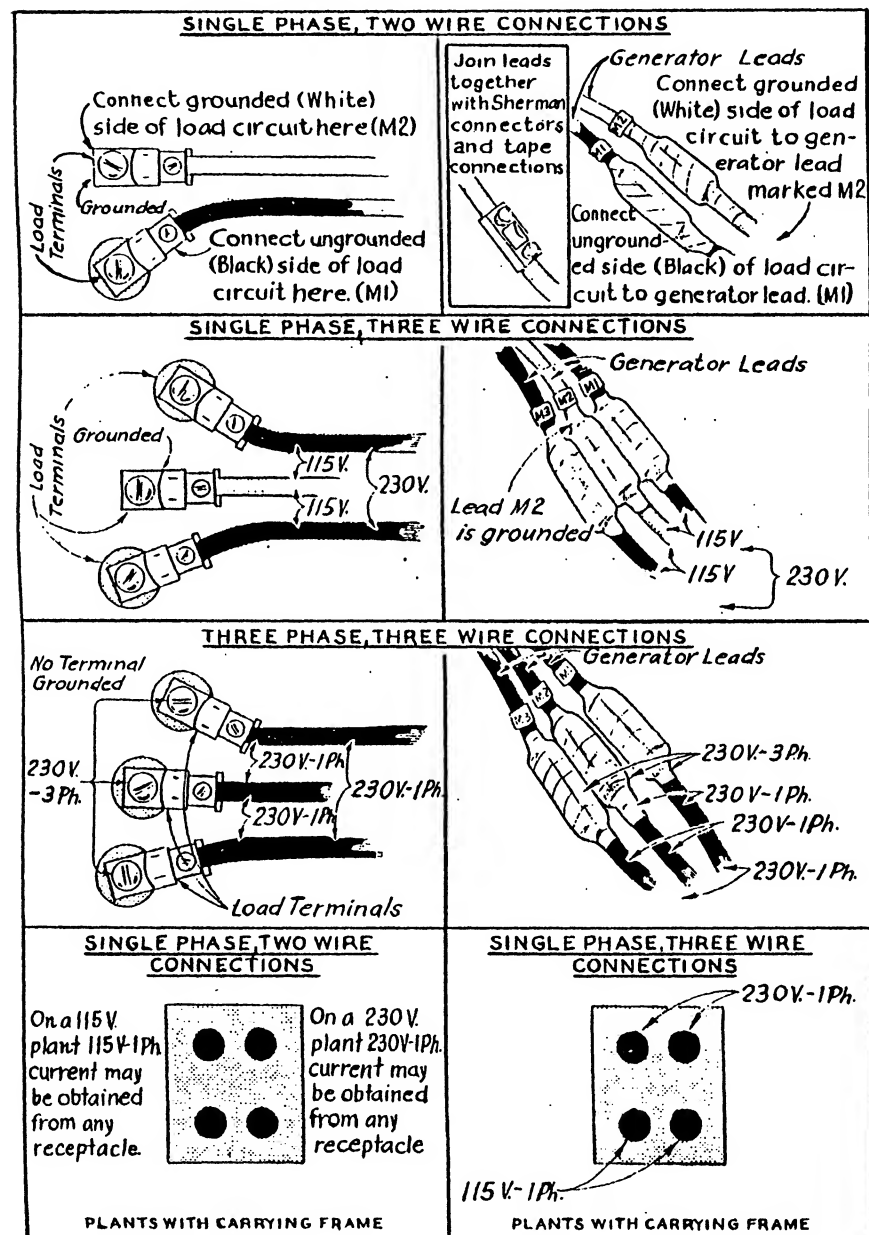

FIG.16- AC LOAD CONNECTIONS
If only one 115 volt circuit is to be used, connect the grounded side of the main line to the lead marked "M2" and connect the hot side of the main line to either "M1" or to "M3". See Fig. 16. When only one 115 volt circuit is used, the total load on the circuit should not be more than  $1/2$  the capacity of the plant.
For a three phase, 230 volt hookup, connect one main line wire to each of the three leads marked "M1", "M2", and "M3", one wire to each lead. See Fig.16. If the connected load rotates in the wrong direction after the plant is started, changing the connection between any two load terminals will reverse the direction of rotation. To assure in phase connections, use a phase sequence indicator.
**SINGLE PHASE - 3 WIRE CONNECTIONS.** - If only one 115 volt circuit is to be used, connect the hot main line wire to either of the two outer terminals and the grounded main line wire to the center terminal, one wire to each terminal. See Fig. 16. When only 115 volt circuit is used, the total load on the circuit should not be more than 1/2 the capacity of the plant.
**THREE PHASE - 3 WIRE CONNECTION.** - For a three phase 230 volt circuit, connect one main line wire to each of the three terminals. None of the terminals are grounded. See Fig. 16. If the connected load rotates in the wrong direction after the plant is started, changing the connections at any two load terminals will reverse the direction of rotation. To assure in phase connections, use a phase sequence indicator.